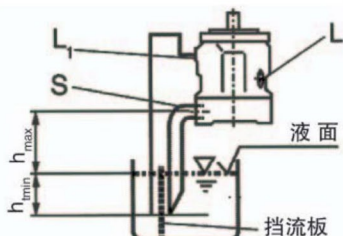

图 2
b) 如果油箱的最低液面低于泵的安装法兰面，则封闭泄油口“L”，泄油口“L₁”及进油口“S”按图 2 配管，并参见 1.2.1 节。
在安装前泵置于水平位置并灌满油液。如安装于油箱的上方，参见图 2。
- If the minimum fluid level is below the pump mounting face pipe port "L₁" and "S" according to Fig. 2.
Before installation fill the pump housing, keeping it in a horizontal position. For mounting above reservoir see Fig. 2.